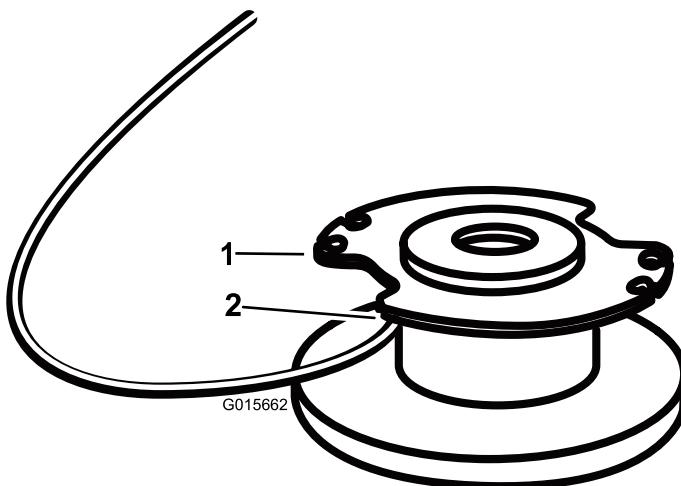

Figure 16
4. Insert the string into the anchor hole in the upper part of the spool (Figure 16). Wind the string onto the spool in the direction shown by the arrows on the spool.